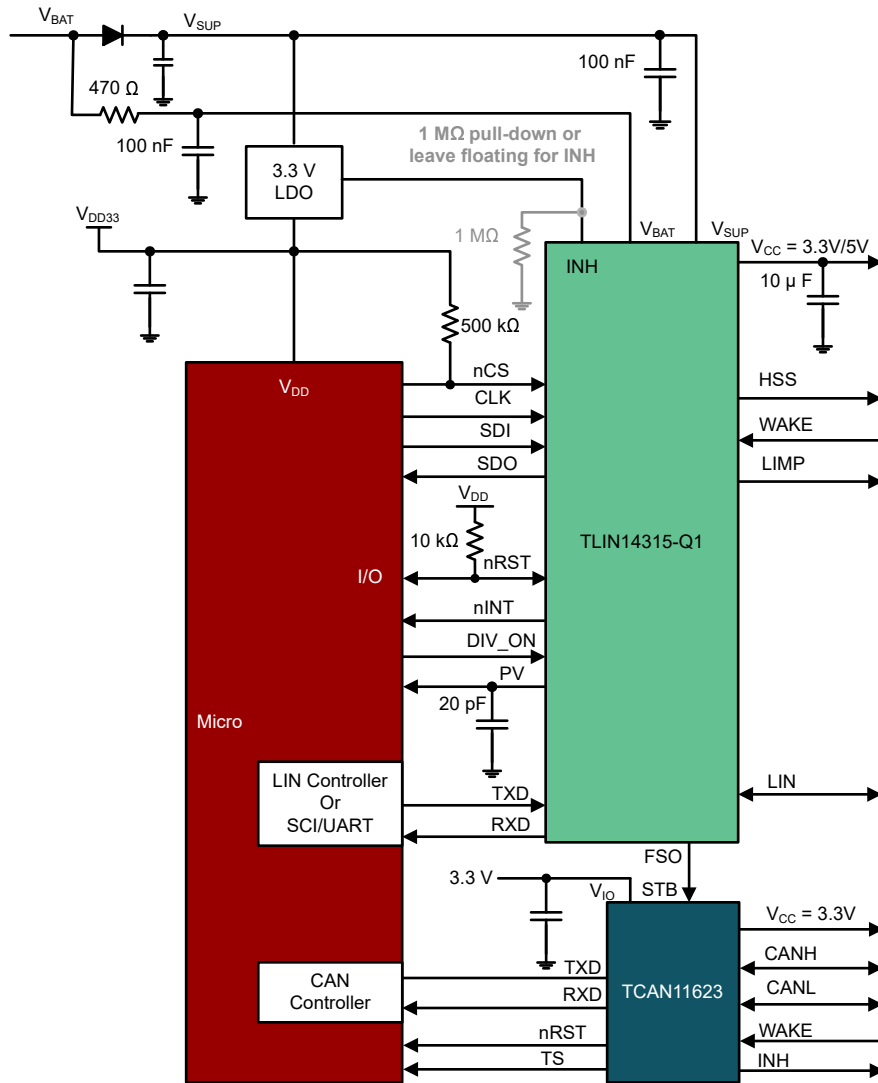

Figure 8-23. Channel Expansion: CAN SBC
- One LIN and one CAN FD transceiver with two LDO outputs by using a CAN FD SBC (see Figure 8-23)